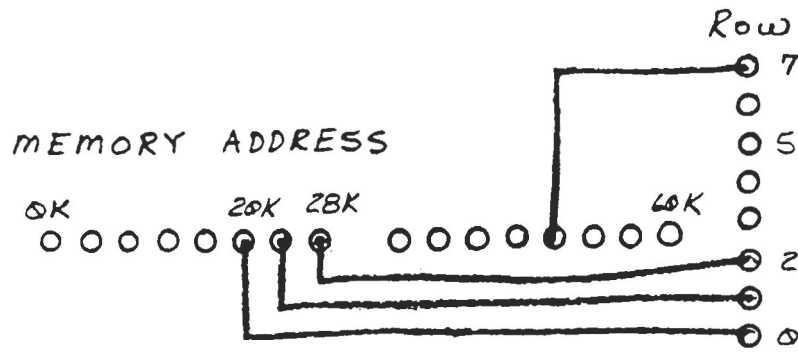

FIGURE 8
18. ADDRESS SELECTION Each horizontal row of memory chips will store 4K bytes of data. Of the total 64K available, there are 16 possible locations for each 4K of memory to occupy. Refer to fig. 7 and fig. 8. In the example in fig. 8 the row of memory chips closest to the edge fingers on the card (which is the row designated as row zero) is jumpered to the Augat pin marked 20K. Row one is jumpered to 24K. Row two to 28K. Row seven is jumpered to 48K. So each horizontal memory row is assigned to occupy a particular 4K out of the 64K possible. Be sure not to duplicate any memory locations which have been previously assigned to another memory card in your system. Prepare two  $2\frac{1}{2}$  inch jumpers for each 8K of memory on your card. Stripping  $3/16$  insulation from each end of the #24 solid wire provided, insert one end of the wires into the holes provided next to the resistor pak RP-1. If you only have 8K on your card only two jumpers will be needed and they should be inserted in holes 0 and 1. Each additional 8K will use two additional jumpers installed in holes 2 and 3, 4 and 5, 6 and 7 respectively. The other end of these wires will be inserted into the Augat pins to program the address selection as described above.